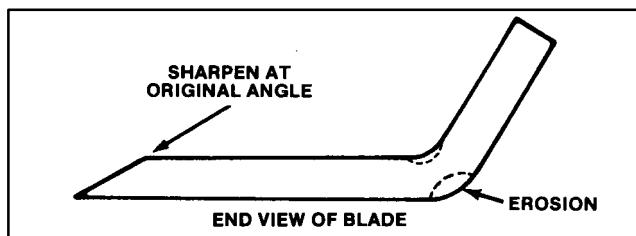

Figure 16
Check cutter blade every time rider is tipped on end. If bolt holding blade is loose, tighten it to 45–60 ft-lb. If blade or sail (Fig. 16) at end of blade is worn, eroded, or cracked, replace the blade. Replace the blade if it is bent or out-of-balance. Always use genuine TORO replacement blade to ensure safety and best performance. NEVER USE WILL-FIT REPLACEMENT BLADE.
7. Using a file, sharpen cutting edge at both ends of the blade (Fig. 16).